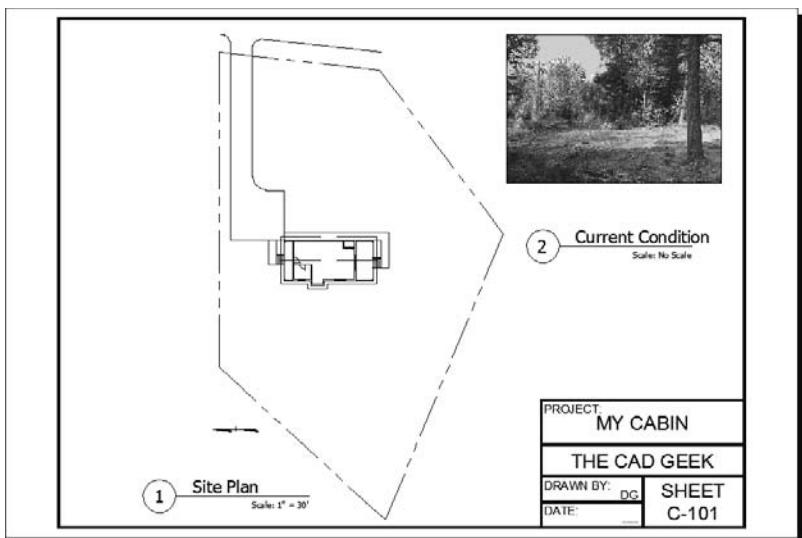

FIGURE 15.33 Preview of the Cabin Site layout
5. Click the Preview button. The white area around the border isn't even (see Figure 15.33). This is because the aspect ratio of the layout is different from that of the 24"×36" (A1 -594 mm×841 mm) paper.